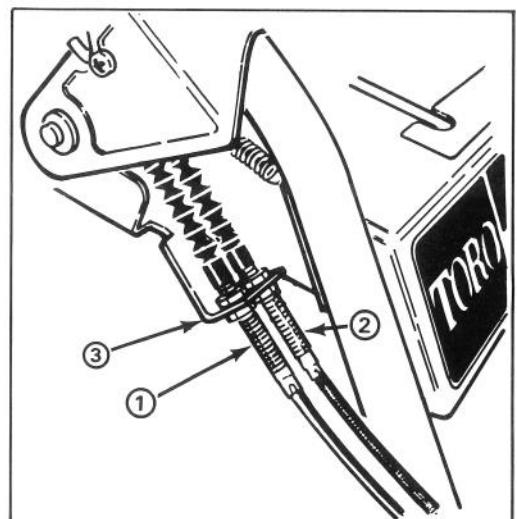

Figure 18
3. Loosen upper jam nut securing auger/impeller cable to mounting bracket (Fig. 18).
### ADJUSTING TRACTION DRIVE BELT (Fig. 18)
8. On control cable which corresponds to belt being replaced, loosen jam nuts securing cable to bracket (Fig. 18). Cable must be free to slide in bracket when changing belt(s).